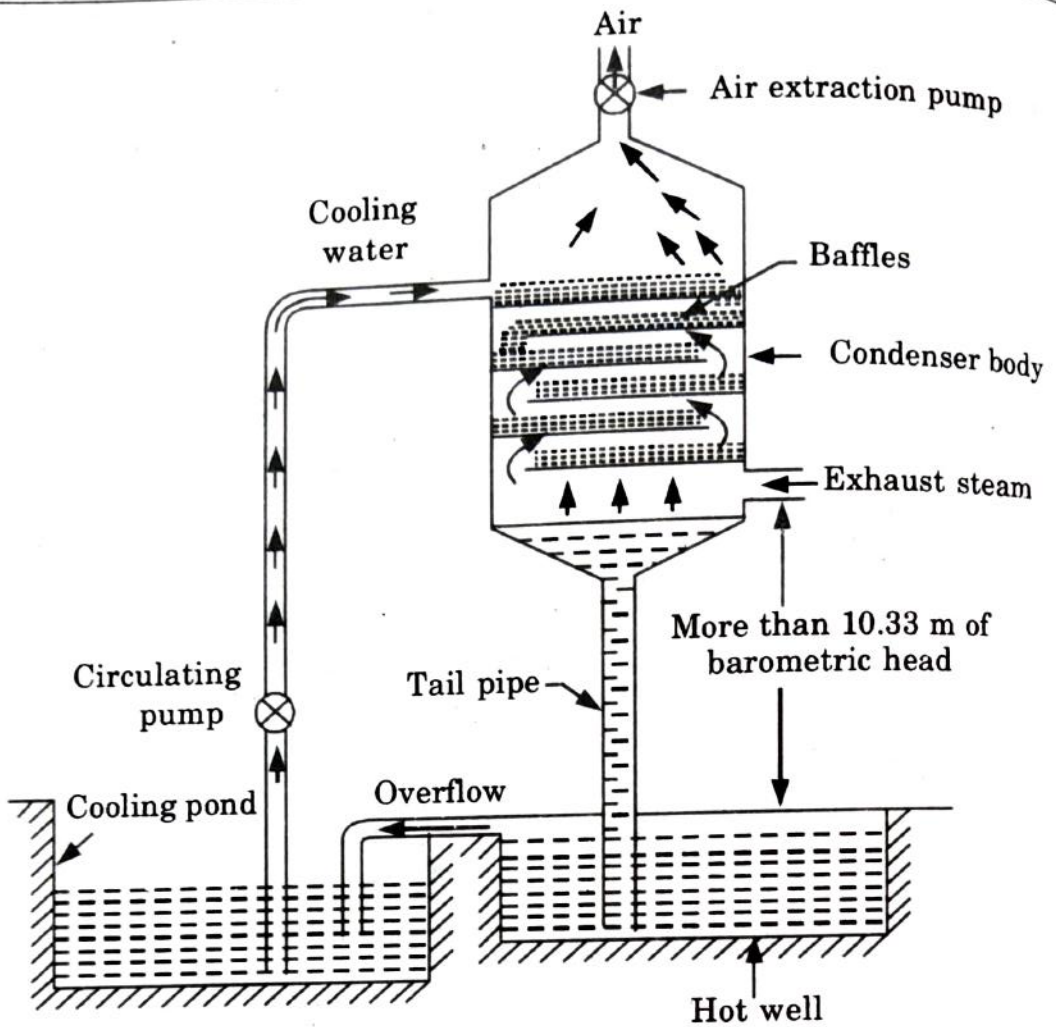

Fig. 3.18.1. Barometric jet condenser.
1. It is also known as high level jet condenser. This barometric jet condenser (shown in Fig. 3.18.1) is similar to low level jet condenser except the column of water in tail pipe.